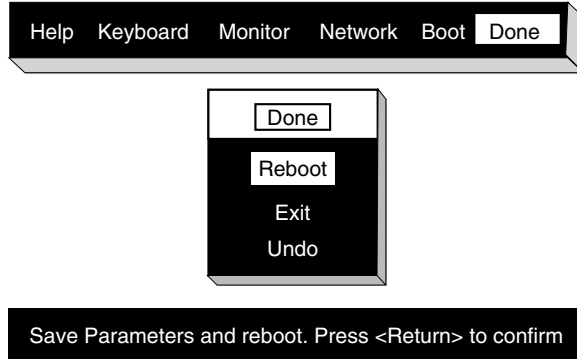

Figure 4-3 Boot Monitor Done Menu
10. Press the right arrow key to select `Done`. The menu shown in Figure 4-3 appears.